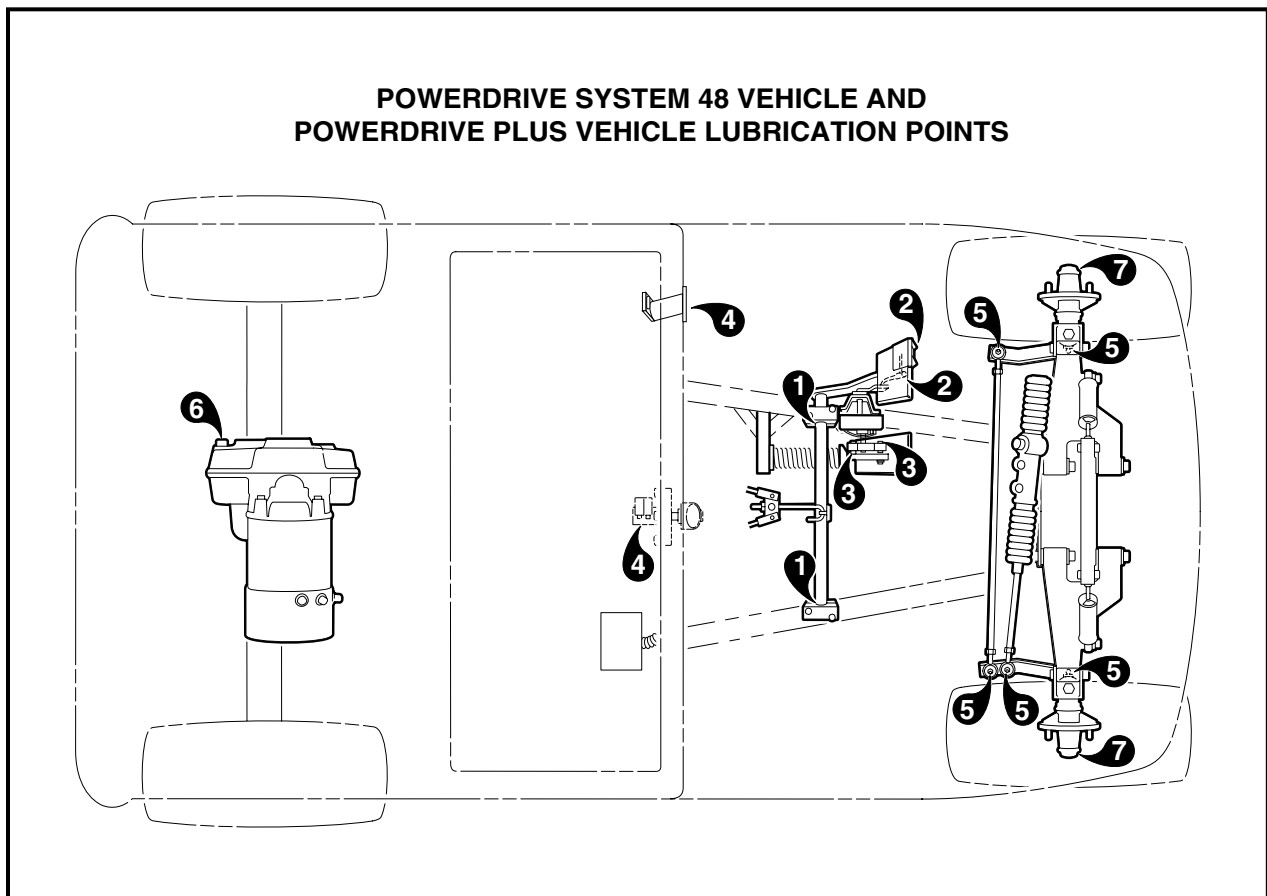
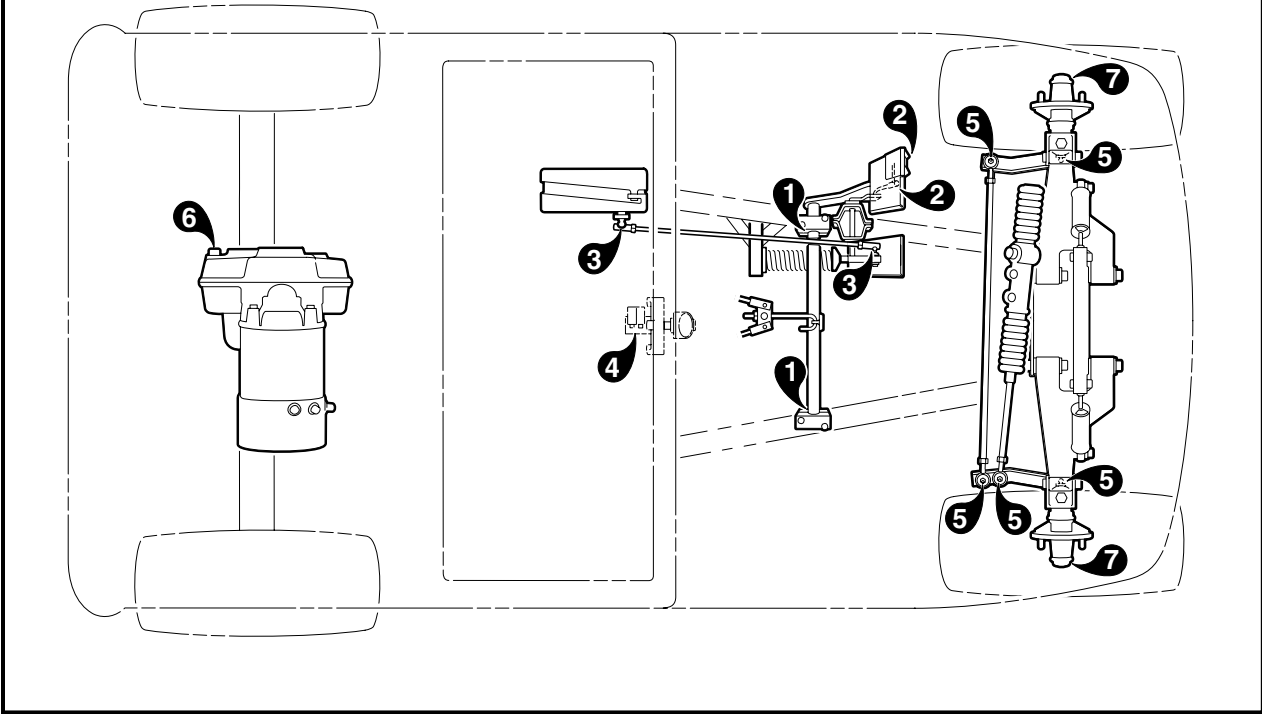

FIGURE 17
FIGURE 18
*See Figure 17 below, and Figure 18 on Page 26.